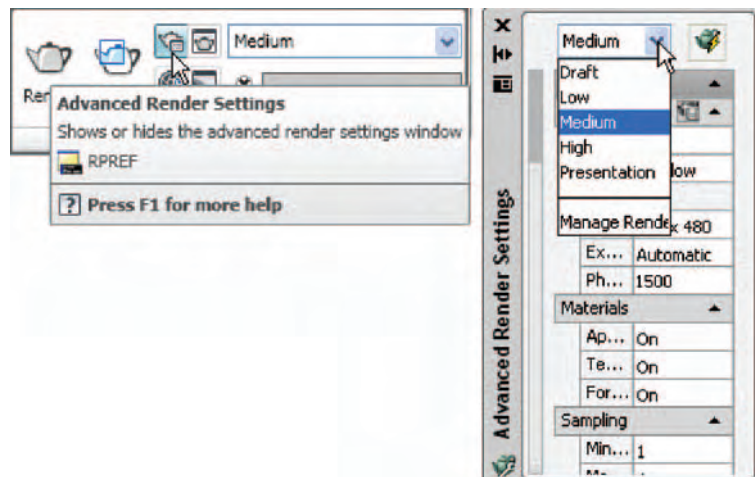

Fig. 15.36 Setting the form of rendering to **Presentation**
6. Click the **Advanced Render Settings** tool in the **Output/Render** toolbar and in the palette which appears select **Presentation** from the list at the top of the palette (Fig. 15.36).